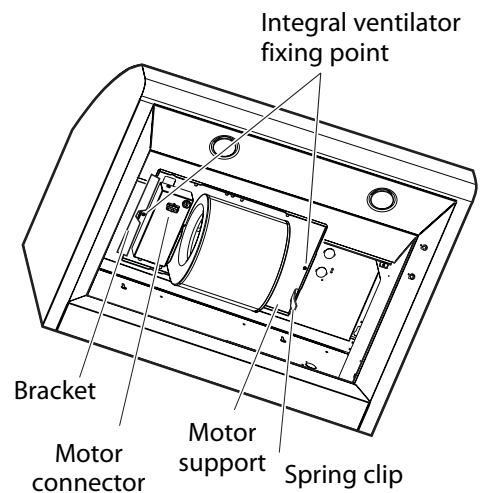
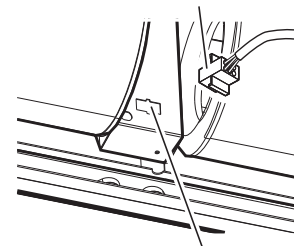

FIG. 9
FIG. 10
The Integral ventilator can be mounted to discharge air as shown in Figure 9. From the inside of the hood, slip motor into the bracket on the left. Rotate motor upwards until it snaps into the spring clip on the right.
1. Connect the Integral Ventilator mox plug connector to the connector present inside the hood as shown in Figure 9 or Figure 10.